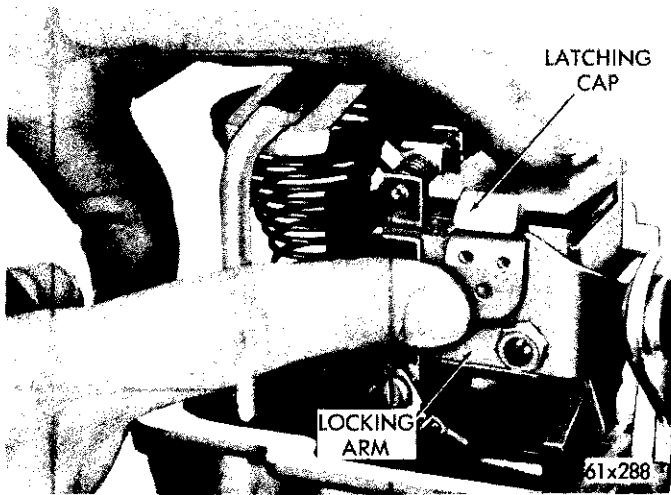

Fig. 15—Latching Arm to the Magnet Assembly
(3) Move the locking arm against the magnet and push the latching cap down to lock the magnet assembly and lock arm together (Fig. 15).